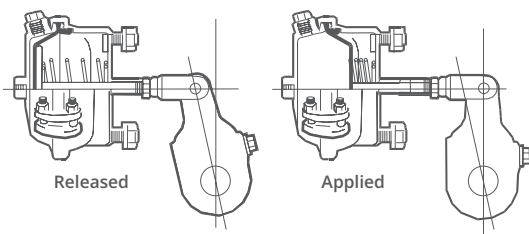

Figure 52. Slack adjuster and push rod angle
- With brakes released, check that the angle formed by the slack adjuster arm and push rod is greater than 90° (Fig. 52). All slack adjusters should be adjusted to this same angle.